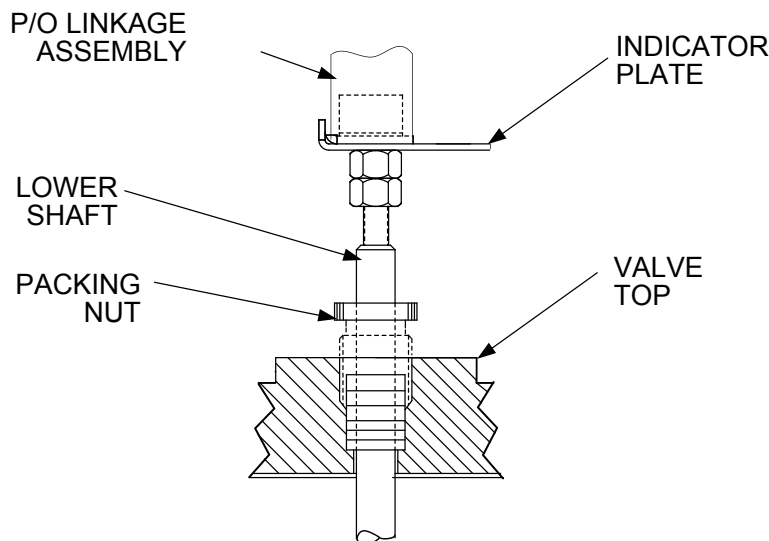

Figure 6-1. Valve Shaft Seals
- 1) Refer to Figure 6-1 and check the Packing Nut and Valve Top for evidence of leakage.